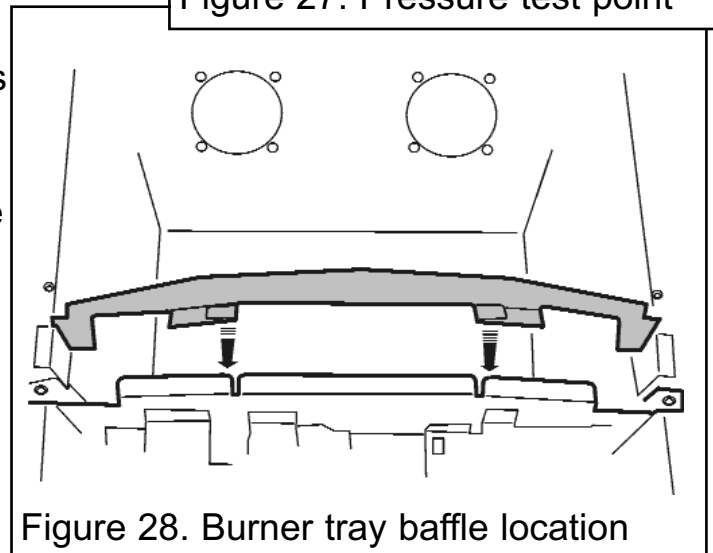

Figure 28. Burner tray baffle location
5. Fit the burner baffle to the front flanges of the burner. To do this, locate the tags on the baffle over the front flanges of the burner and lower into position (See figure 28).